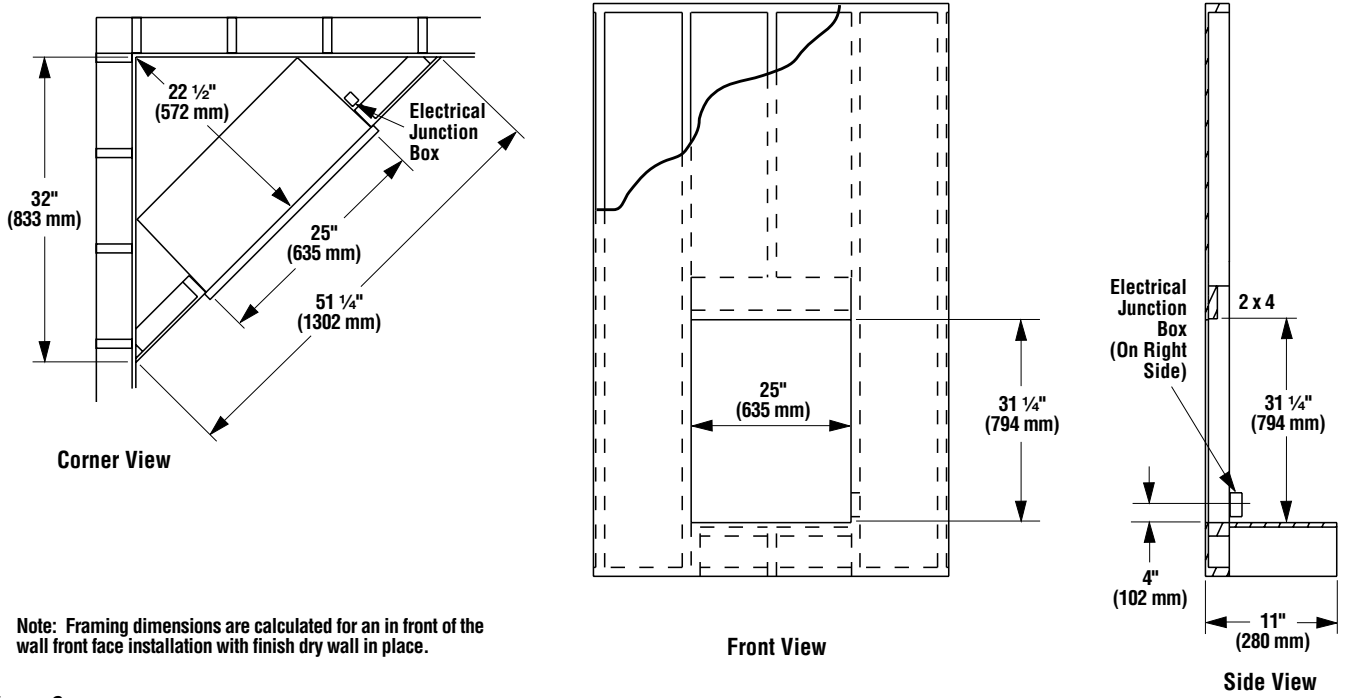

Figure 2
1. Complete the framing opening to the dimensions specified in *Figure 2* or assemble mantel.